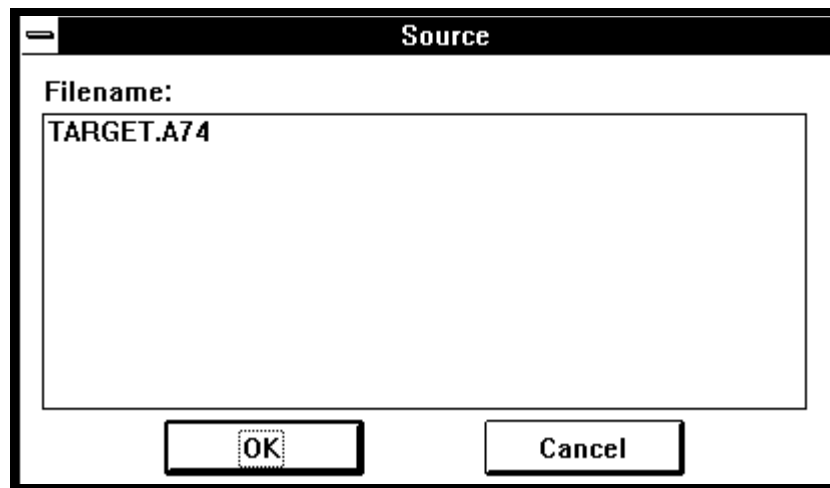

Figure 5-22 File selection dialog box
- When you click on the **Refer** button, a file selection dialog box pops up. You can use this dialog box to specify a file name, instead of entering it from the keyboard. Figure 5-22 shows the structure of this dialog box.